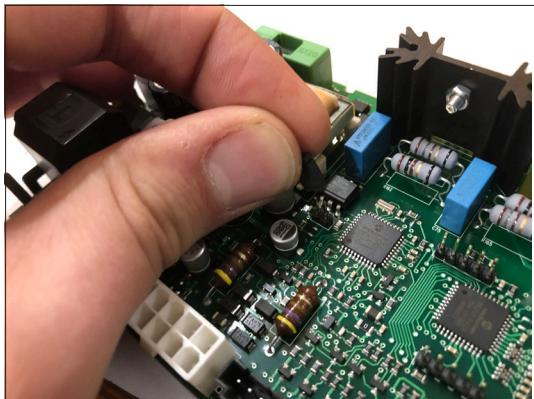

Figure 4.3, Plastic Jumper Removed
4. Pull the plastic jumper straight up to expose the two individuals pins underneath it. This changes the control module function from a natural draft system to a power vent system. See Figure 4.3.